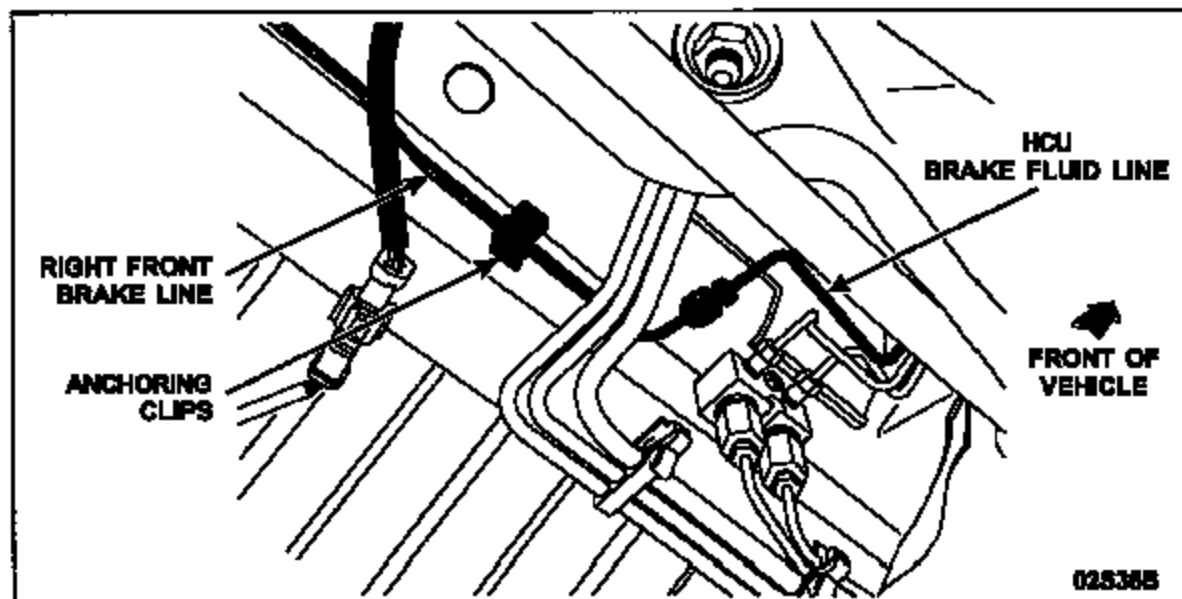

FIGURE 2
2. Remove and discard the right front brake fluid line with the anchoring clips still attached to the line, then plug the brake fluid line coming from the hydraulic control unit (HCU) with a rubber cap or equivalent. See Figure 2.